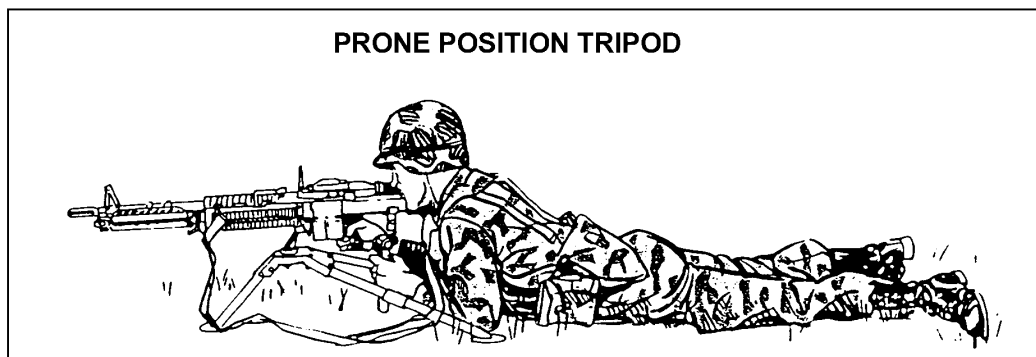

Figure 4-5. Prone position, tripod-supported.
(1) The gunner, spreads his legs a comfortable distance apart with his heels as close to the ground as possible and still be comfortable.
(2) Grasps the pistol grip with his right hand with the fleshy end of his index finger resting lightly on the trigger. (The machine gun is not fired left-handed with the tripod because turning the traverse handwheel with the right hand is difficult.)
(3) Grasps the elevating handwheel with his left hand, palm down. Exerts a firm downward pressure with both hands while aiming and firing.
(4) Places both elbows on the ground between the tripod legs and his body. The position of his elbows raises or lowers his body in relation to the machine gun.
(5) Places his shoulder lightly against the stock without applying any pressure.
(6) Rests his cheek lightly (if at all) against the stock (Figure 4-5).